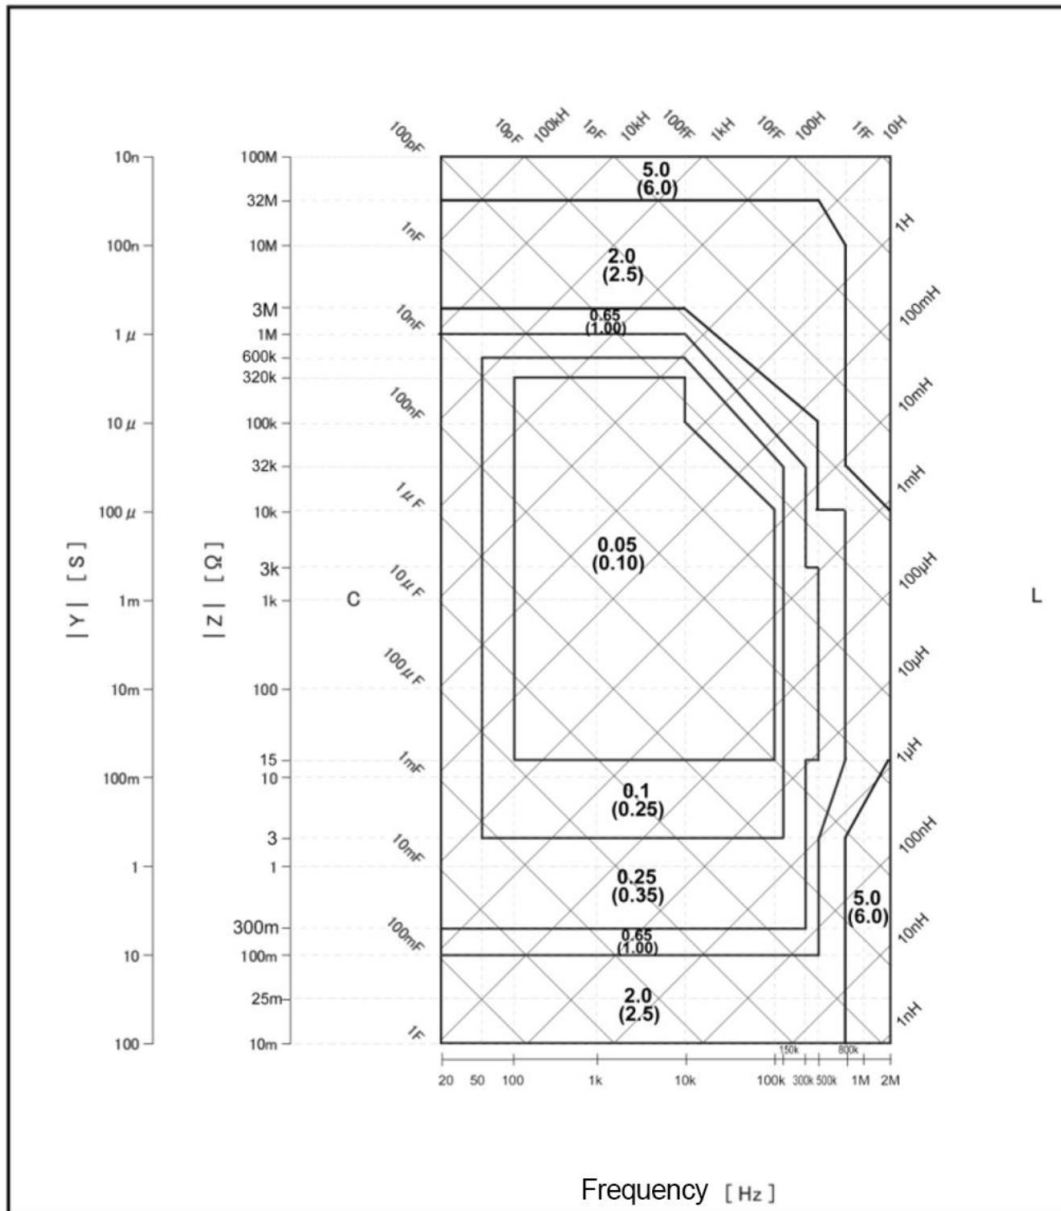

Figure 6-1 Basic Measurement Accuracy Factor A
- A: Basic Measurement Accuracy (Figure 6-1)